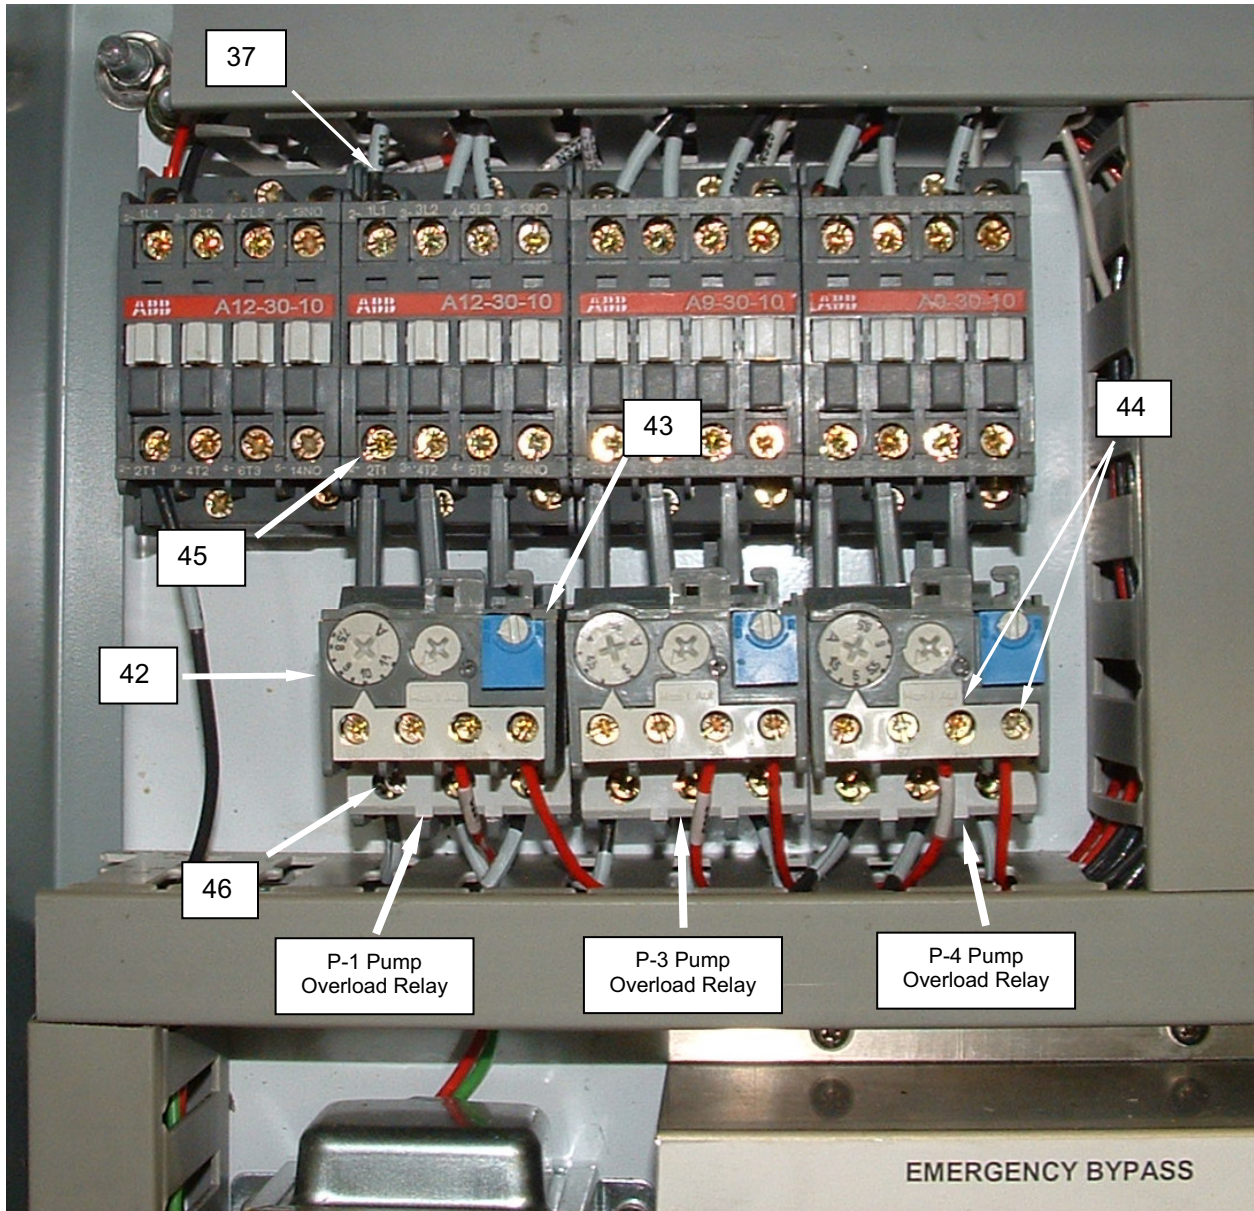

Figure 21. Test an Overload Relay.
2. Open the PLC enclosure and locate the overload relay (**Figure 21, Item 42**) to be tested.
3. Press the overload reset button (**Figure 21, Item 43**). If resetting the overload corrects the malfunction, determine the cause of the overload.
4. Use a voltmeter to test for voltage between the two control terminals (**Figure 21, Item 44**) on the relay. There should be 0 VAC between these two points. Test between each control terminal and ground. There should be 120 VAC between each terminal and ground.
5. Use a voltmeter to test for voltage between the T-1 terminal (**Figure 21, Item 45**) on the contactor (**Figure 21, Item 37**) and the L1 terminal (**Figure 21, Item 46**) on the relay (**Figure 21, Item 42**). There should be 0 VAC between these two points.